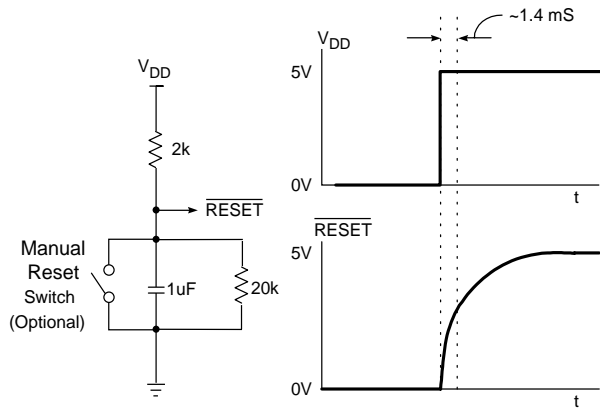

Fig. 10b Acceptable external reset circuit when a master reset is not available
In applications where a board-level reset is not available, a circuit similar to figure 10b can be used to ensure correct reset on power-up. The $\overline{\text{RESET}}$ pin will typically take 1.4ms to reach 2.5V on power up, but can take longer for power supplies with slower rise times. A bleed resistor such as the one shown (20k) will assist the capacitor to discharge once power is removed. The user should allow the capacitor to discharge to at least 0.5V before power is reapplied, to permit a full internal reset. The time taken by the $\overline{\text{RESET}}$ pin to reach 0.5V on power down, is dependent upon the fall time of the power supply.
- Changes to Ancillary Checksum Verification, Data Processing Block, I²C Serial Interface, and Reset descriptions. (Added Figure 10b)